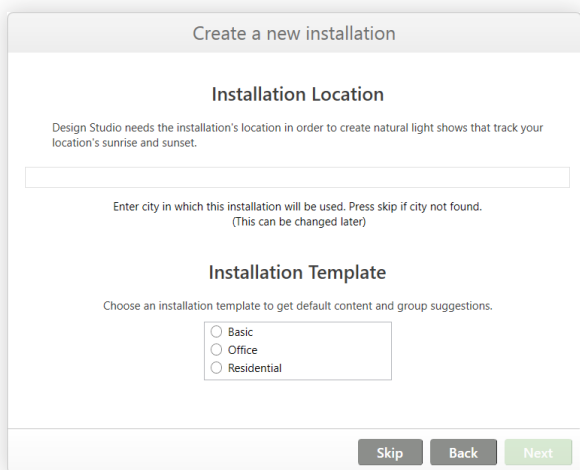

fig. 14
- 6 **Set the installation's location.** See fig. 14. This step can be skipped, and any location information you enter now can be modified later. Setting the installation location allows Design Studio to create a default natural light (circadian) show for your convenience. The show will be usable with the Ketra mobile app as soon as you create the installation.
- 7 **Choose an installation template.** See fig. 14. This step can be skipped, but it is important in determining the default content that will come with your installation, including the content that will be assigned to Ketra keypads as soon as you provision them. Picking a template will therefore help you streamline programming after creating the installation. We recommend picking either **Office** or **Residential**.